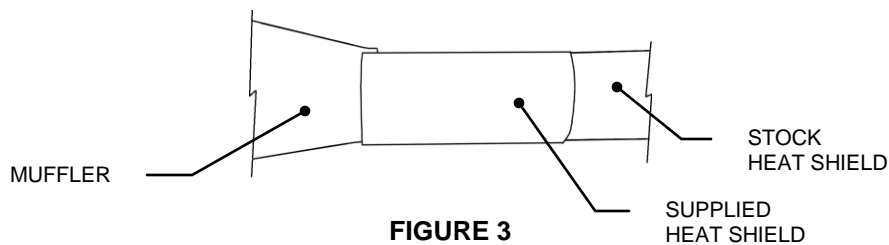

FIGURE 3
13. Snap the lower heat shield over front muffler body and head pipe stock heat shield making sure the short straight of the heat shield is to the front and align the top edge of both heat shields. (See figure 3). Tighten clamp.
14. Snap upper heat shield over muffler/stock heat shield and align top edge of new heat shield with stock heat shield (see figure 3) Tighten hose clamp.